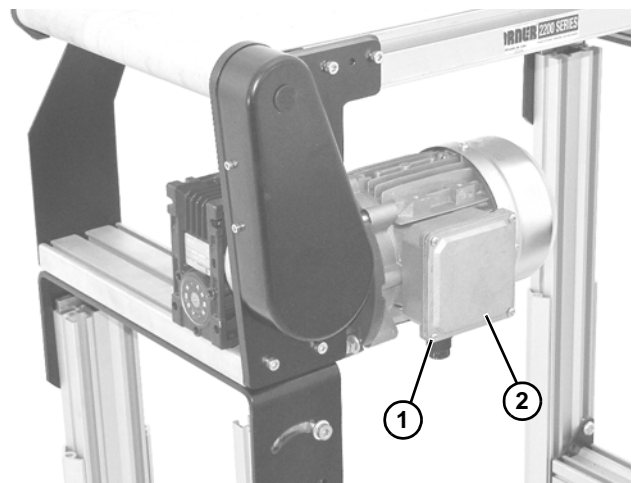

Figure 40
- a. Loosen terminal box screws (**Figure 40, item 1**) and remove cover (**Figure 40, item 2**).